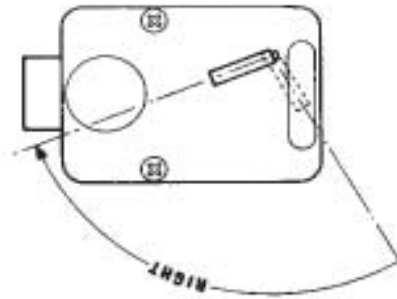

Figure 1
2. With the last number set at the changing index, hold the dial securely and insert the change key in the keyhole in the back of the lock. Make sure the wing is entirely inside the lock and comes to a positive stop (see Figure 1) before turning the key.
6. Turn the dial to the **Left**, stopping when the third number is aligned with the '**Change Index**', the **Second** time. Holding the dial in this position, turn the change key back to the **Right** and remove it. (See Figure 1.) The new combination you have chosen is now set in the lock,